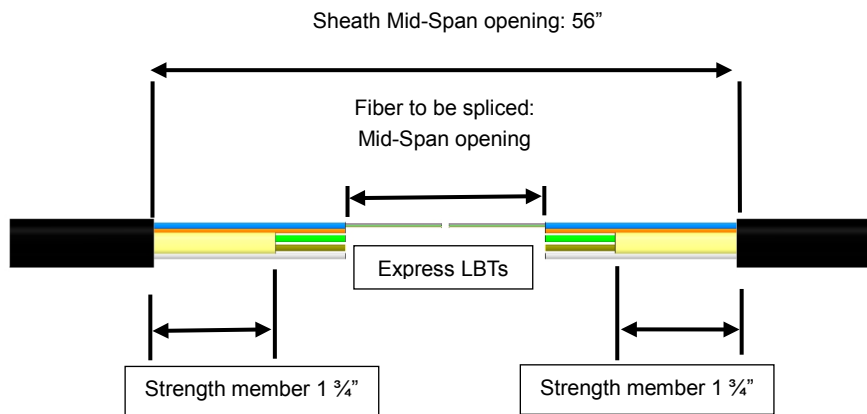

Figure 1
See Figure 1.
3.1.2 Prepare mid-span opening: remove 56\" of outer sheath. See Figure 1.
3.1.3 Cut strength member(s) 1 3/4\" from end of sheath openings. See Figure 1. If flat drop has a trace wire, cleanly cut away 4\" of wire from end sheath opening. See photos 1-2.